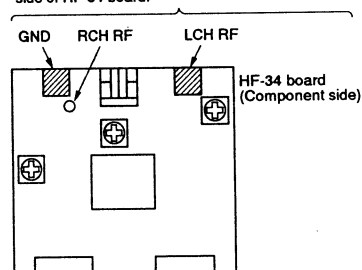

Fig. 7-2-8.
Measurement Point	CH1: See Fig. 7-2-8 (HF-34 Board) CH2: Pin ③ of CN802 (RV-33 Board)